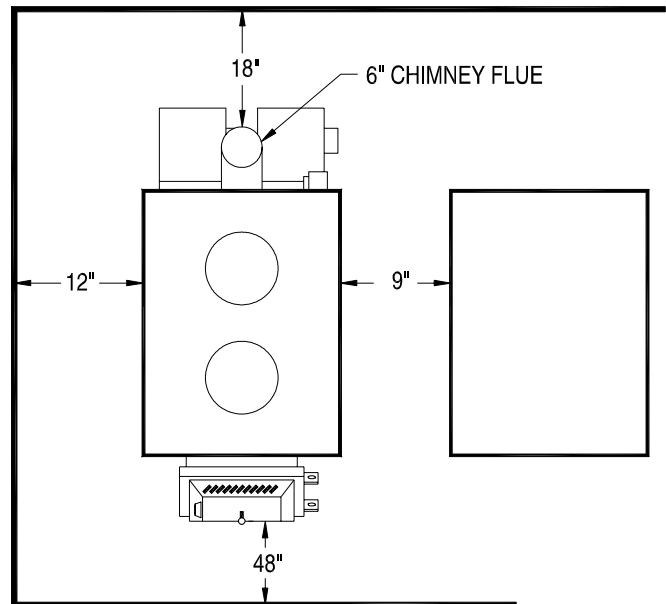

Figure 2
1. The furnace should be located in the same room as the central system and as close as possible, but not closer than 9". There should be no wall between the furnace and the warm air outlet duct that is connected directly to the warm air outlet plenum of the central furnace. (See Fig. 2)
(Refer to Fig. 2 & 3)
4. Check figures 2 and 3. Be sure you have the clearances shown from the furnace and the connector pipe to combustible surfaces. If you have a solid brick or stone wall behind your furnace, you can place the furnace as close as you wish to the wall. If the wall is only faced with brick or stone, treat it as a combustible wall.
5. Installation for Supplemental Heat Application to Existing Central System. (See Fig. 2 for typical installation.)